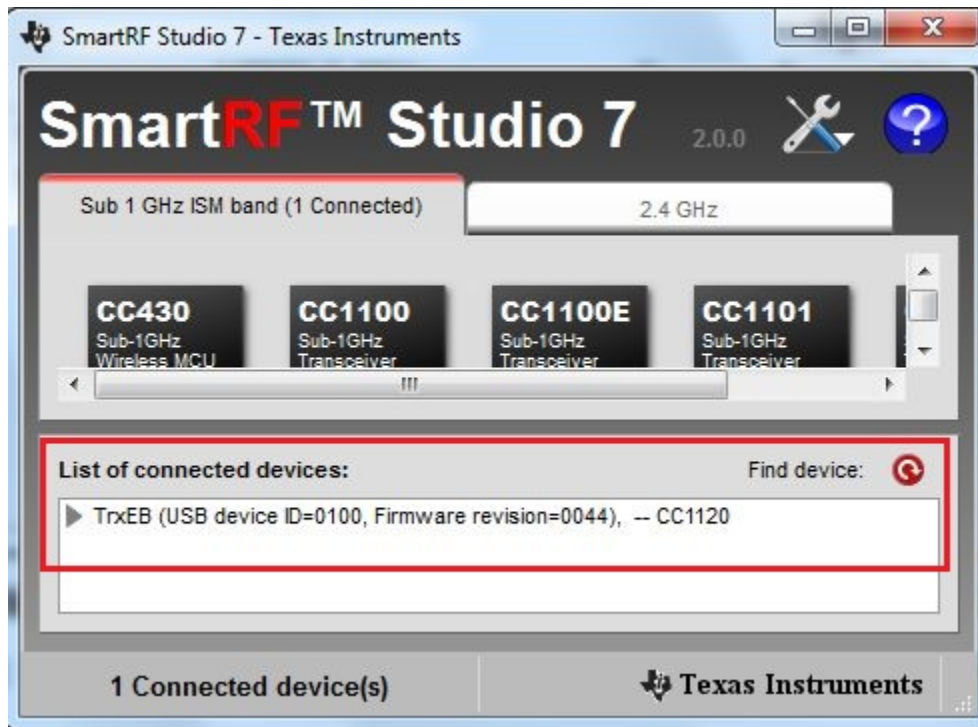

Figure 13. SmartRF Studio Window
1. Open SmartRFStudio on the PC. It shows "CC112x" in the List of Connected Devices Window. A screen shot of SRS window is shown in Figure 13.